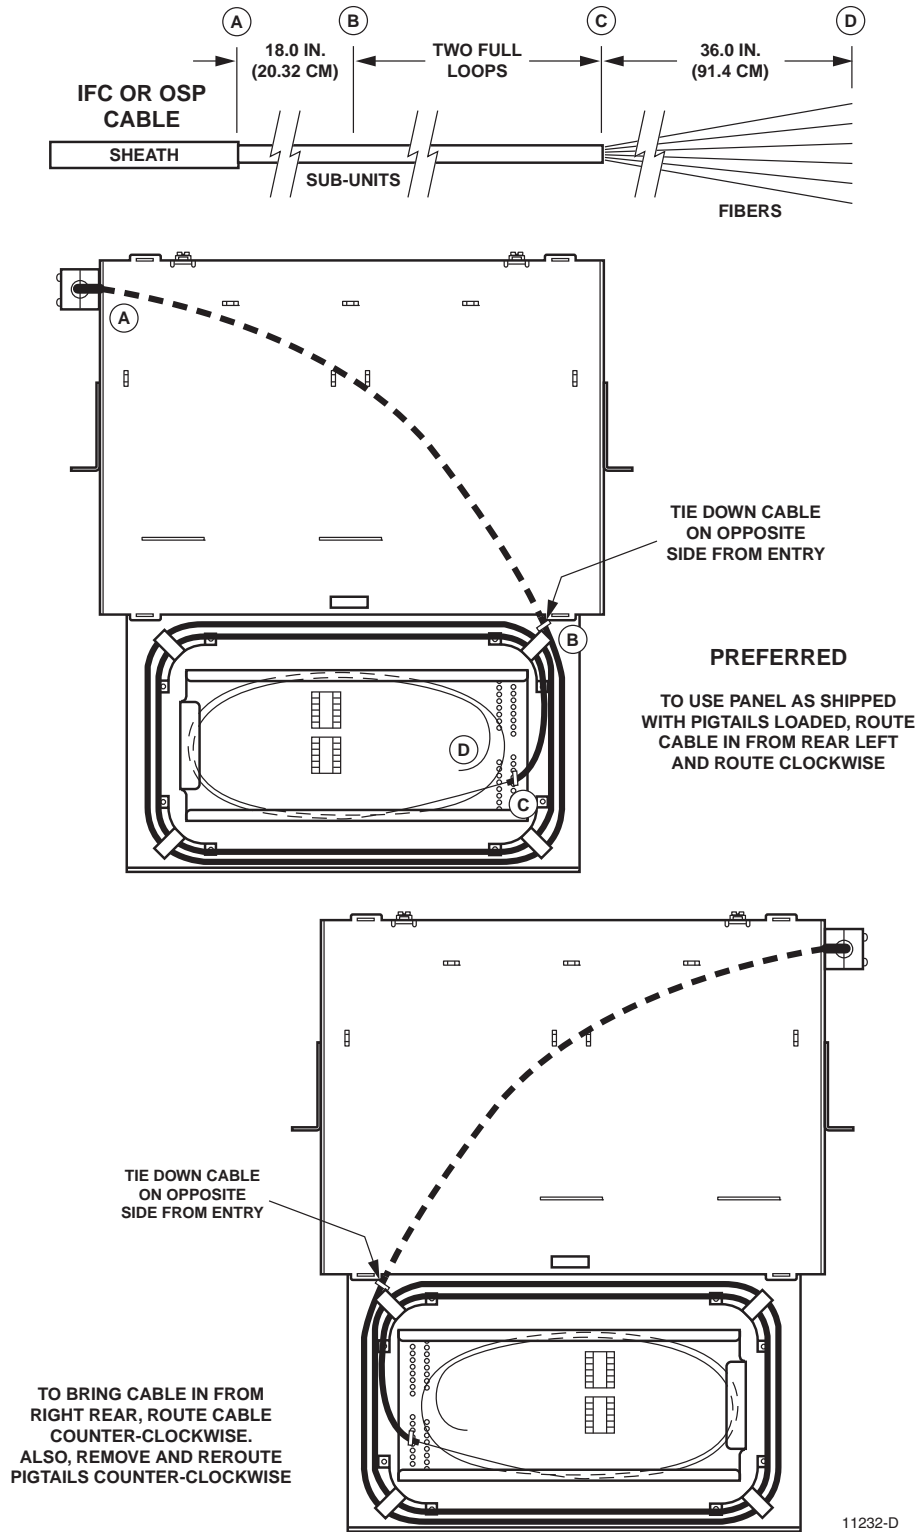
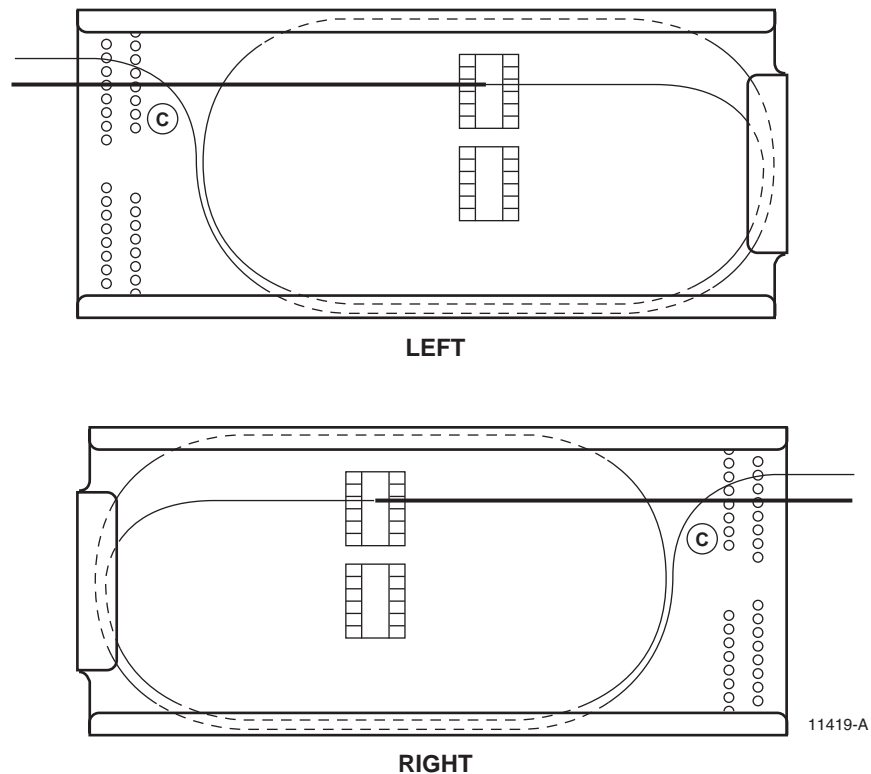

Figure 9. Fiber Routing in 24-Fiber Termination/Splicing Panel
Figure 10. Routing Fibers on a Splice Tray
Figure 9 shows cable routing options and breakout dimensions for the 24-fiber termination rack-mount panel. The cable can enter from above or below the chassis and from the left or right side.
2. Pull out the splice drawer and thread the cable stub through the chassis onto the splice tray in the approximate position shown in Figure 9. Based on the figure, determine how much length of cable will be required for the B to C double loop section shown.
5. Tie the fibers down with cord lacing in the B position shown in Figure 9.
2. Route the fiber into the splice tray on the same side as the pigtail fiber that it is going to be spliced to, as shown in Figure 10. Loop the fiber around twice in the splice tray.
4. Tie down the fibers with cord lacing in the C position shown in Figure 10. Refer also to Figure 9 for correct routing.